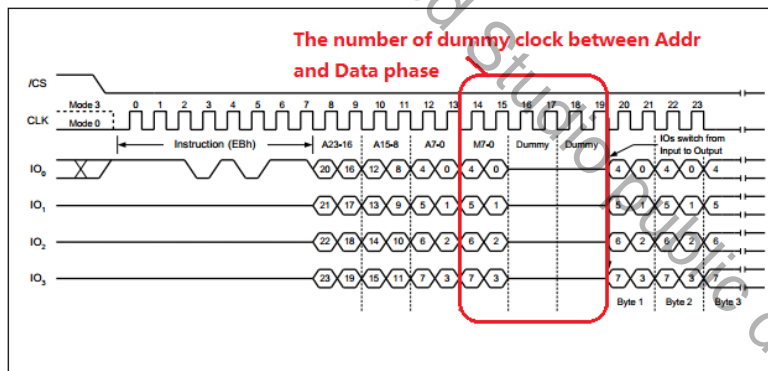

Fig 16-2 Fast read quad I/O instruction sequence
- There are 6 dummy cycles in Read Quad I/O mode, as Fig 16-2 shows.